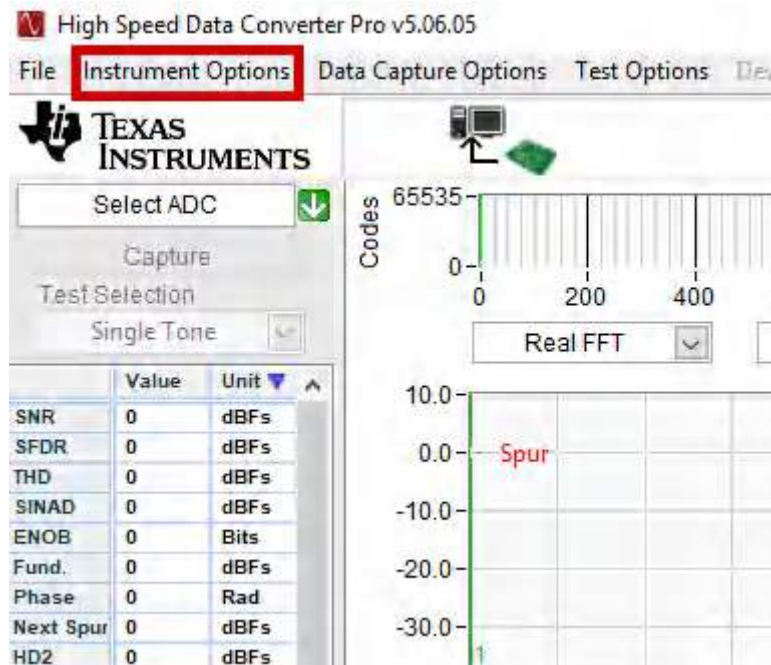

Figure 4-1. Connecting to TSW14J56 From HSDC PRO
1. Within the Microsoft® Windows® PC, start the HSDC PRO software by going to Start > Texas Instruments > High Speed Data Converter Pro. As shown in Figure 4-1, ensure that the High-Speed Data Converter Pro started properly. Take note of the *Serial Numbers* of the TSW14J56 EVM after the device is connected.